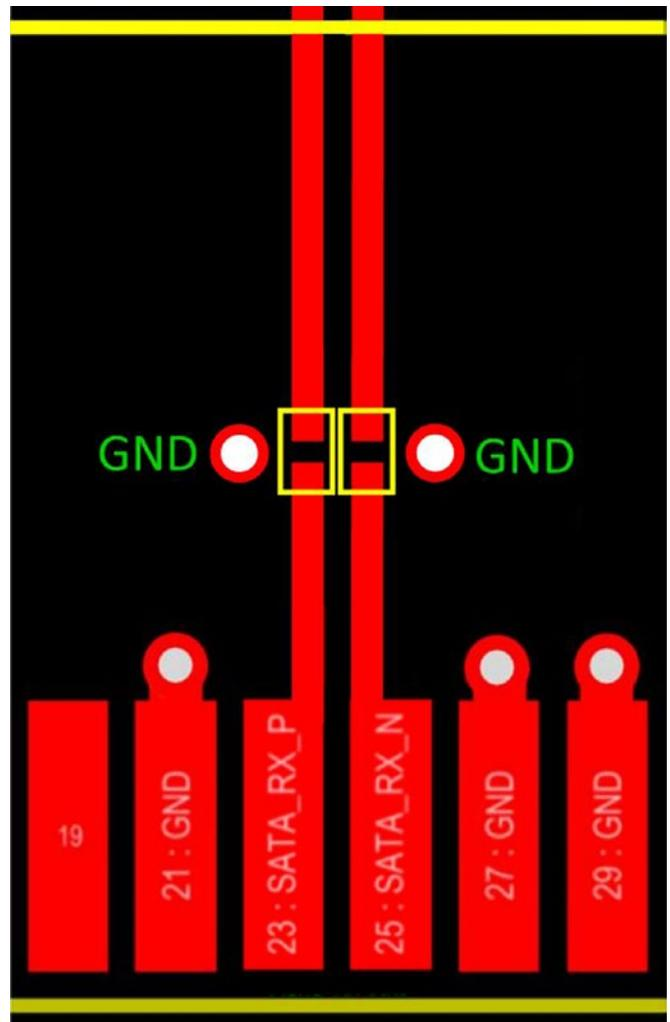

Figure 3: 200 μm trace with 01005 capacitors.
2. A more elegant alternative is to use a smaller capacitor such as a 01005. The explicit assumption (above) is that capacitor land width exceeds the trace width and hence represents a short section of transmission line that requires a cutout to maintain impedance. However, a 200 μm trace can be used in conjunction with a 01005 package of 200 μm land width to avoid the impedance mismatch altogether. In this case, the cutout is not required (Figure 3). Note that the required wider trace will reduce the impedance, so a thicker dielectric will be necessary to control impedance.